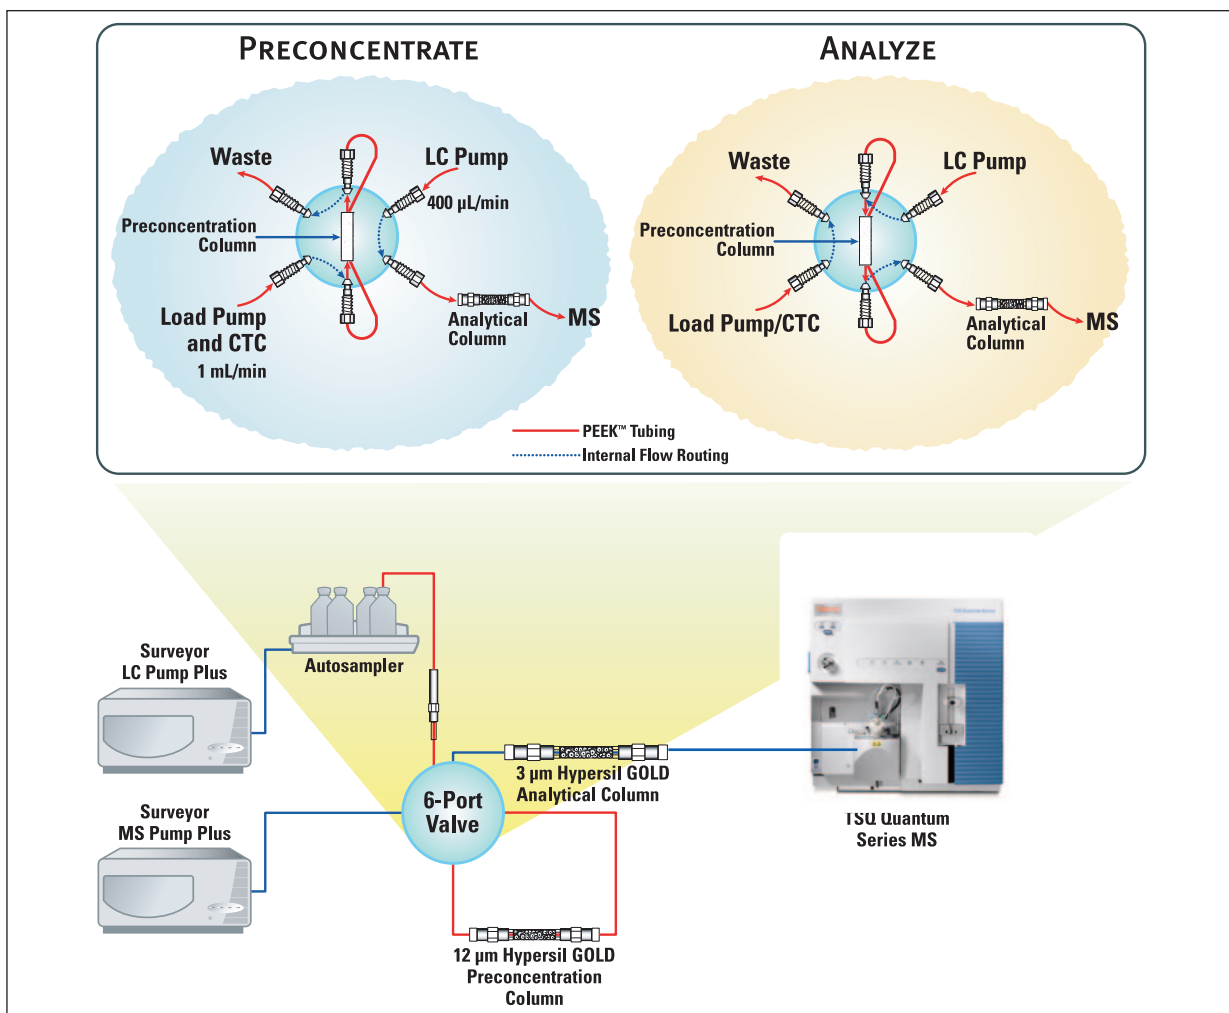

Figure 1: Diagram showing the EQuan setup used in this experiment.
**HPLC Conditions**—Two pump systems were used, a Finnigan Surveyor L-Pump for loading the 1 mL sample onto the loading column (Hypersil GOLD™ 20×2.1 mm 12µ), and a Surveyor™ MS Pump Plus for eluting the compounds off of the loading column and separation on the analytical column (Hypersil GOLD 50×2.1 mm 3µ). The mobile phase for both pumps was Water with 0.1% Formic Acid (A), and Acetonitrile with 0.1% Formic Acid (B). For the loading L Pump, the gradient used is shown in Table 1, and the gradient used for the analysis pump is shown in Table 2. A divert valve on the mass spectrometer is programmed by the data system to control the loading and elution of the two LC columns. In this experiment, the valve is in the load position from 0 to 1.5 minutes to allow for the entire 1 mL sample to collect on the loading column before switching to the analysis position until all of the analytes are eluted, 12.5 minutes in this case. After switching back to the loading position, the loading column can be rinsed and re-equilibrated by the loading L pump. A schematic of the EQuan system is shown in Figure 1.